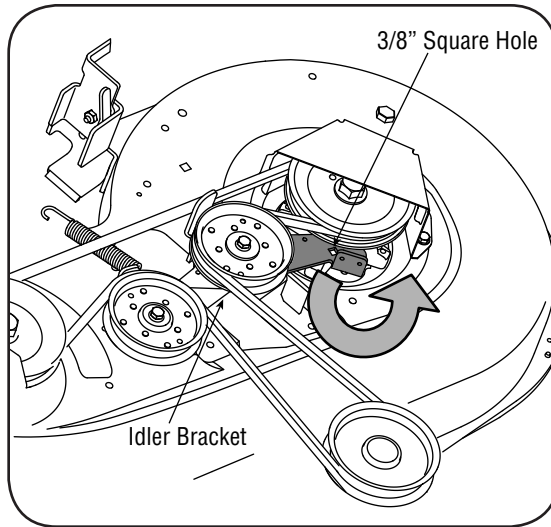

Figure 20
4. Insert a 3/8"-drive ratchet wrench (set to loosen) into the square hole found in the idler bracket on the left side of the deck's surface. See Figure 20.